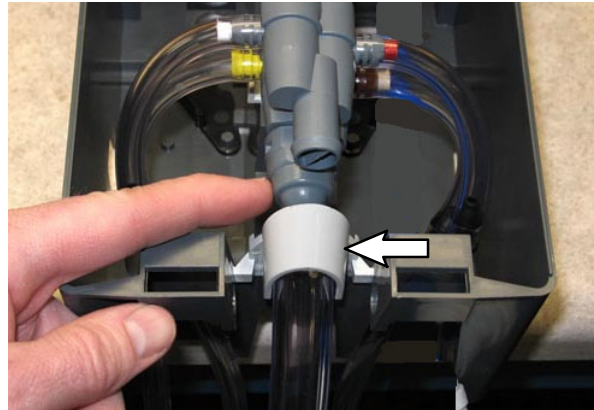

FIG. 23
21. Route the bucket fill hose (longer hose with hanger assembly) through the hose retainer and connect the bucket fill hose to the dispenser. (Fig. 23)
22. **EU Installations Only:** Trim the end of the bucket fill hose so that when it is hanging down it is more than 25 cm from the floor. (Fig. 23)